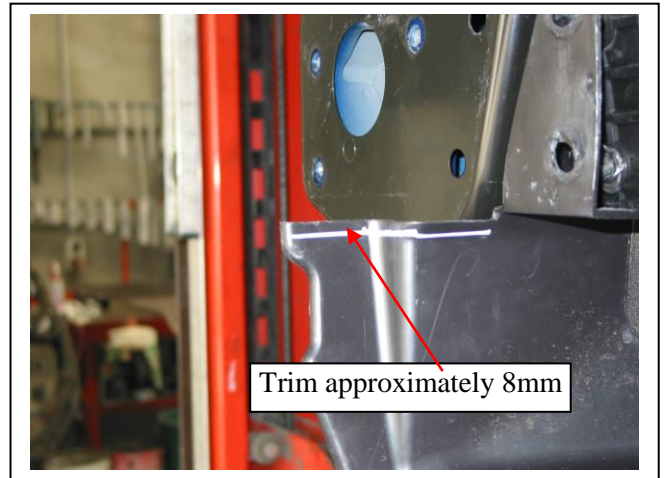

Figure 8 – Driver's side shown
15. Trim plastic air dam using sharp knife, die grinder or similar, to allow fitment of steel mounting brackets. **See figures 8 and 9.**